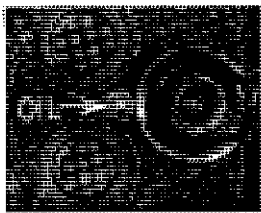
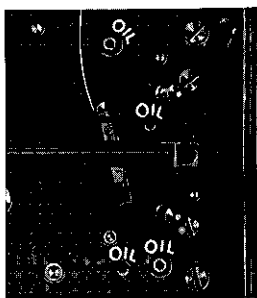

FIGURE 18
FIGURE 19
41. Filmo 70-DA and 70-E Cameras require adequate lubrication. Five oil holes are provided, one at the center of the head (Figure 18) and four in the plate beneath the film spools (Figure 19). To get at the oil hole on the camera head, pry out the capped pin which plugs this hole, using a pen knife or a small screw driver. Each of the five holes should receive one or two drops of Filmo Camera Oil after each five or six hundred feet of film are exposed. Should the camera remain unused for a month or more, oil it before using it. Oiling is particularly necessary when the camera is used in humid countries or by the sea. (If the camera has a hand crank, another oil hole near the hand crank hole should also receive one or two drops of lubricant at each oiling.)